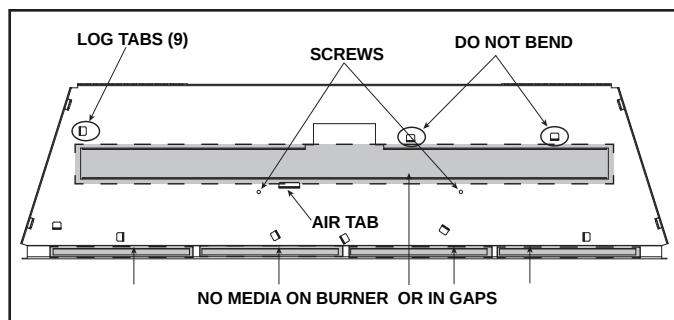
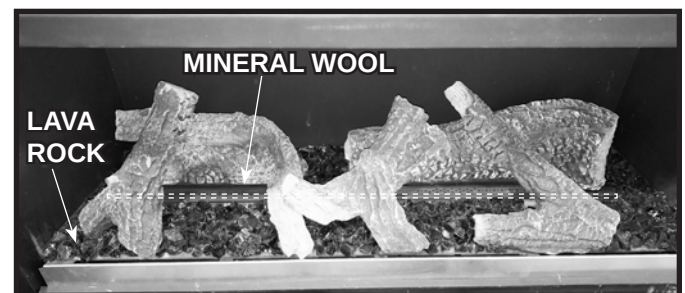

Figure 1 Empty Base Pan
Figure 10 Properly Placed Lava Rock / Location for Mineral Wool
The SLR-X-AUB utilized (7) tabs. Do not bend the two right rear tabs or the air tab. See Figure 1.
10. Place lava rock onto areas of the base pan to fill in around the logs as desired. It is acceptable to completely cover the base pan. DO NOT cover burner, gaps behind burner, air tab, or block the space in front of the pilot assembly. See Figure 1. Place lava rock in a single layer so no sheet metal is showing. Figure 10 shows lava rock properly placed in relation to logs and areas that must be avoided.